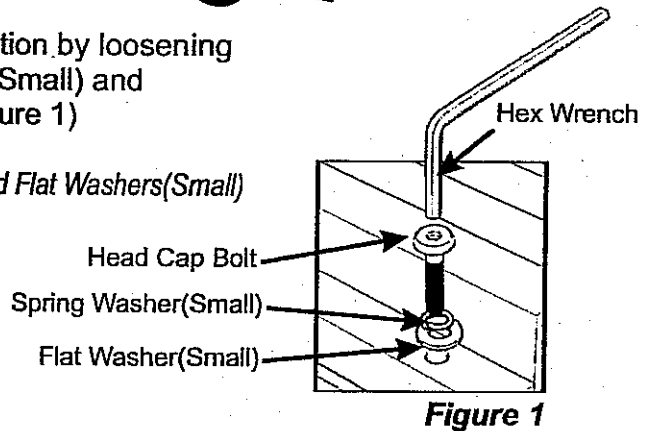

Figure 1
Remove Table Slides (D) from their packing position by loosening and removing Head Cap Bolts, Spring Washers (Small) and Flat Washers (Small) using Hex Wrench. (see Figure 1)